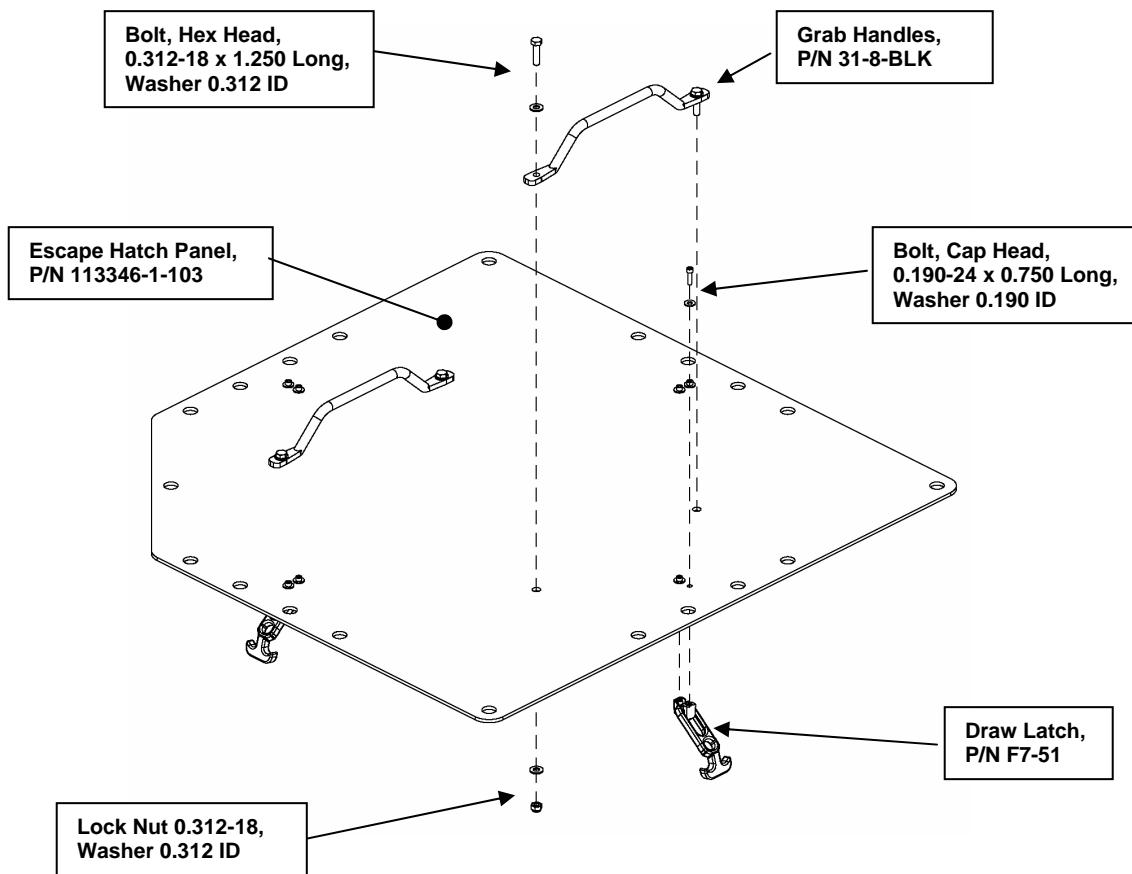

**Figure 39. Installing the Escape Hatch Bulb Seal.**
- Install the Bulb Seal (P/N 103B375B3X3/16E) around the Escape Hatch opening with the rubber bulb facing upward. Start one end of the Bulb Seal on a flat section of the opening (see Figure 39). If necessary, use a rubber mallet to assist in the installation.